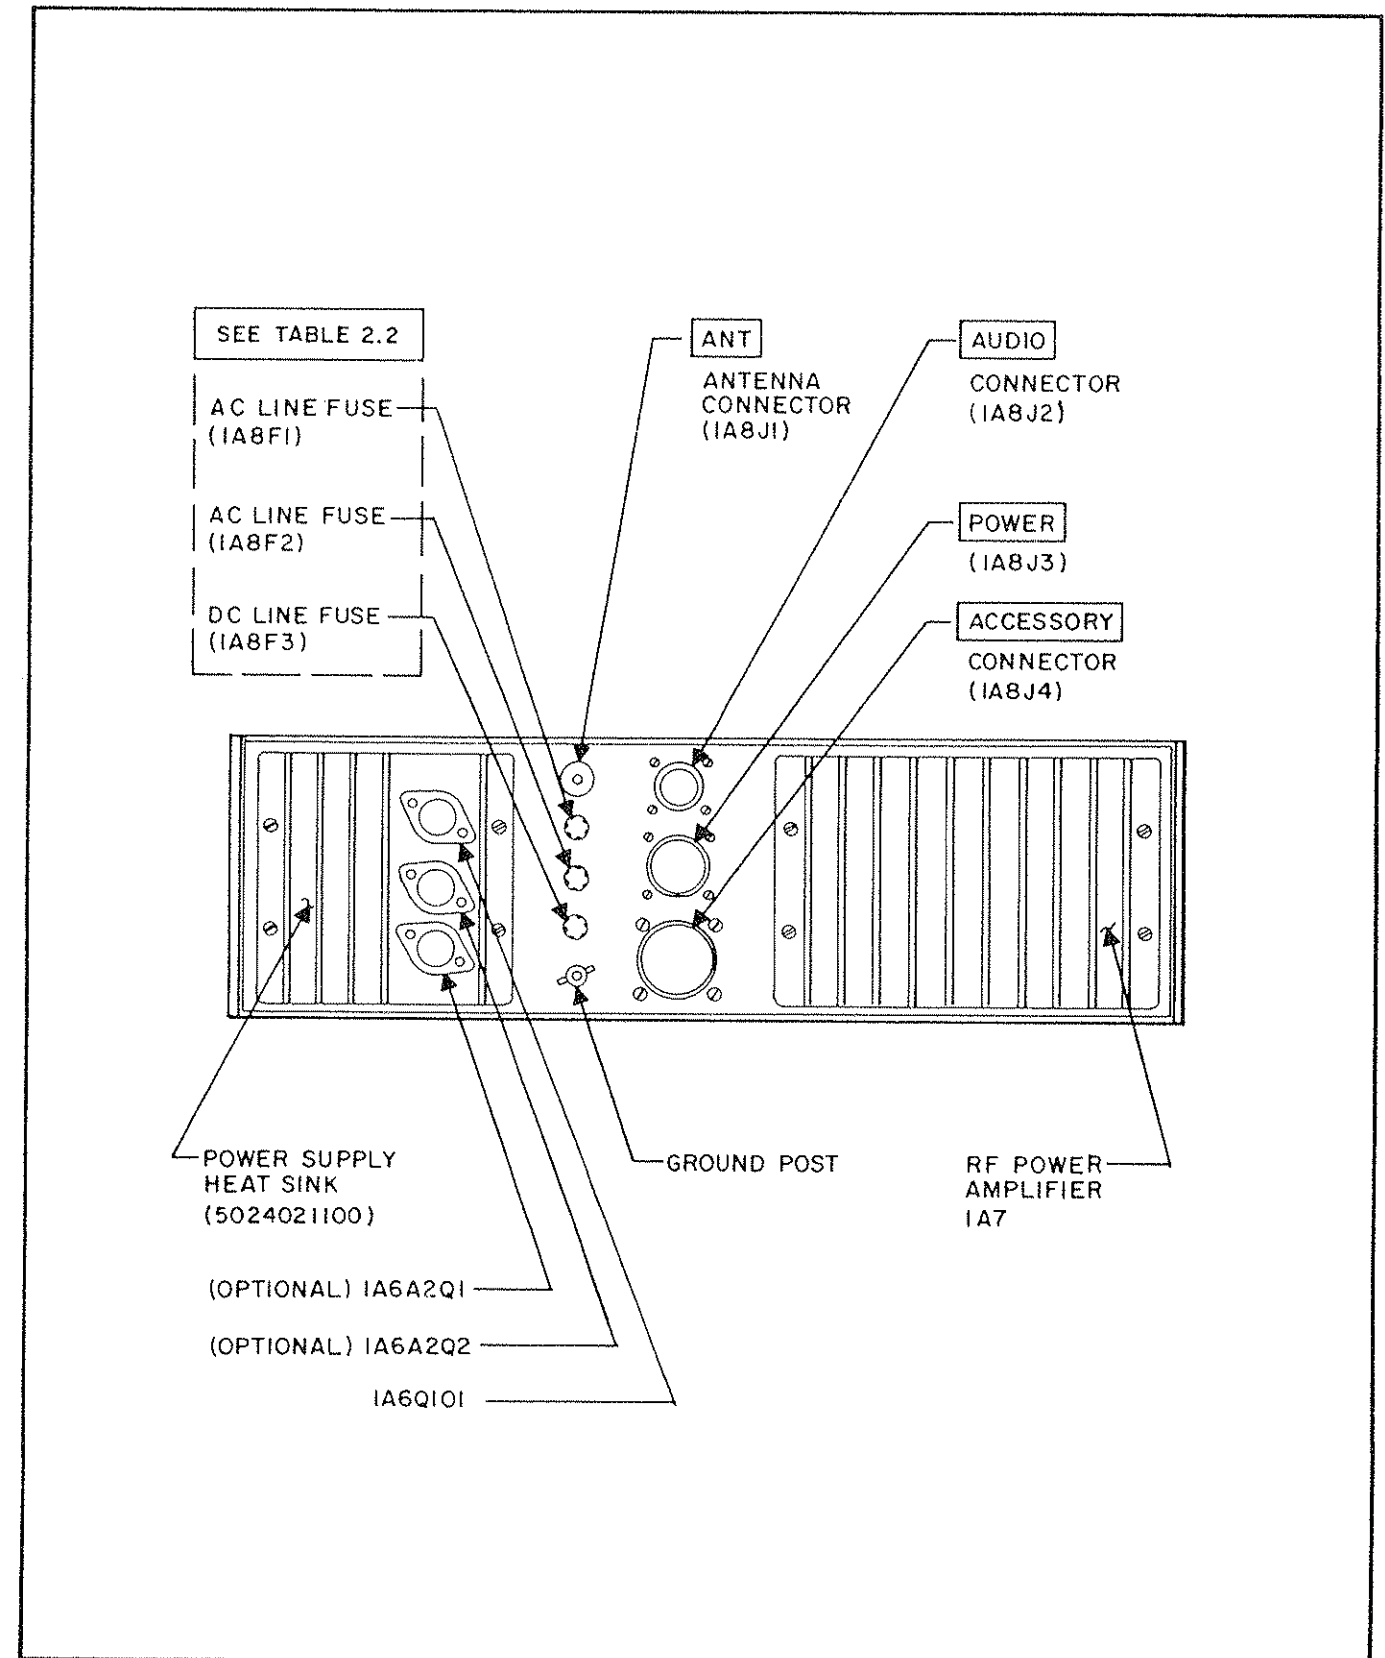

Figure 3.2 GSB-900DX Rear Aprons Components and Connectors
3.3.1 Refer to Figure 3.2 for location